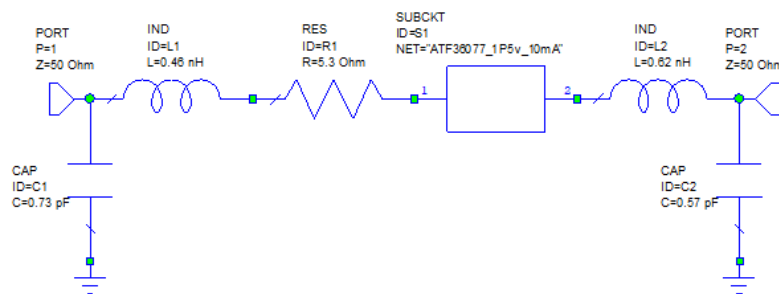

Fig. 16 Schematic of the final absolutely stable amplifier.
- The resulting amplifier can be seen in Fig. 16.